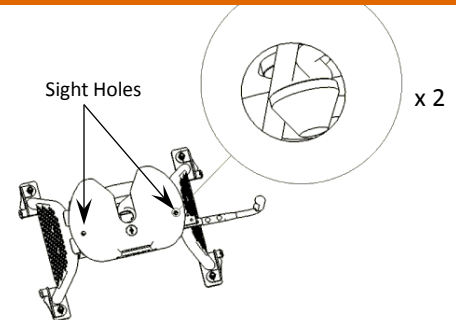

FIG. 7
- Inspect through sight holes on top of head unit to make sure clips are assembled correctly, as shown in figure 7.